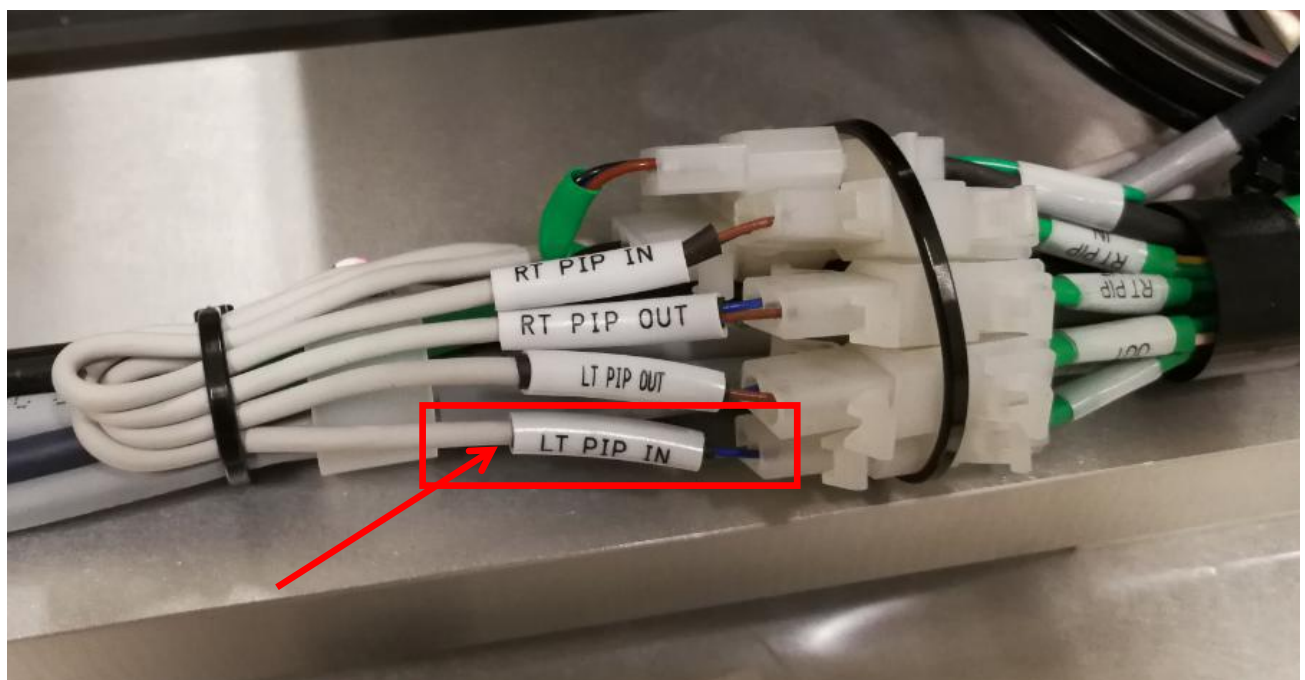

Figure 9 LT PIP In Connector Assembly
2. Plug Left PIP In Reed Sensor Cable connector by refer to ““LT PIP In Label” as Figure 9